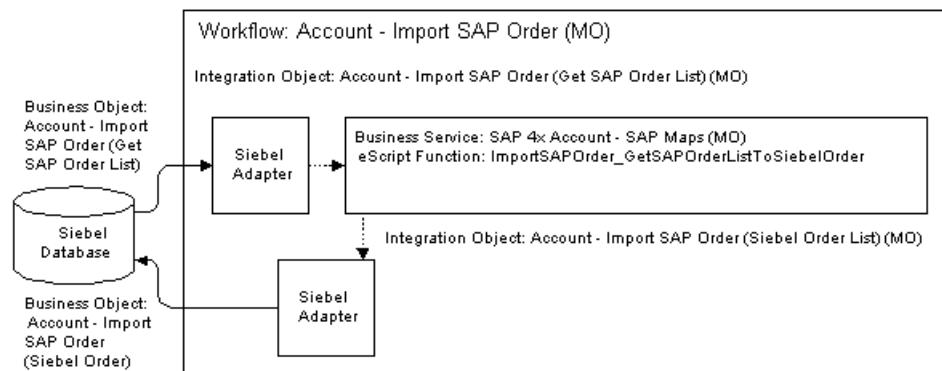

Figure 15. Business Data Flow for Importing the SAP Order
This flow retrieves the list of orders from SAP when given a customer ID from an account in the Siebel application. When you select one of these orders, it can be imported from SAP into the Siebel application. Figure 15 shows the business data flow for importing the SAP order. This consists of the Account-Import SAP Order (MO) workflow. This workflow extracts a record from the Siebel Database using the Siebel Adapter, which passes the record to the SAP 1x Order (Get SAP Order List) (MO) business service. This business service creates the Account-Import SAP Order (Siebel Order List) (MO) integration object and sends this integration object to the Siebel Adapter, which writes it to the Siebel Database.